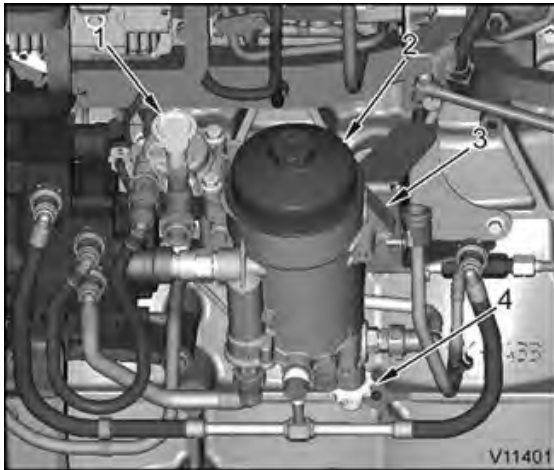

Figure 39. Fuel Primer Pump
1. Prime engine at hand primer pump (Figure 39):